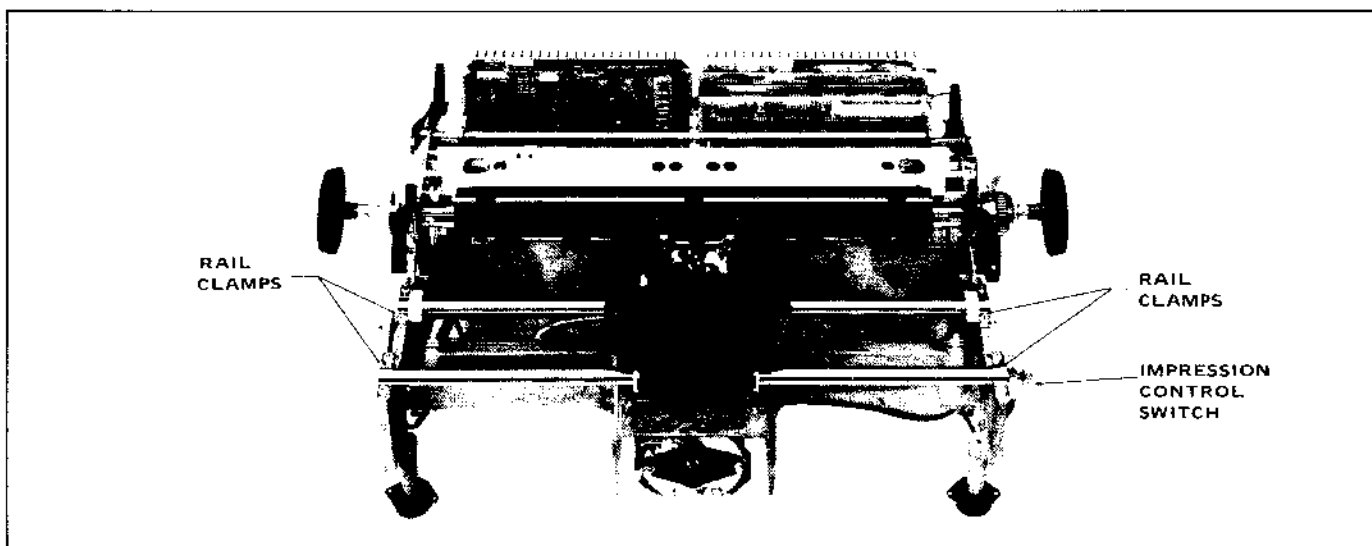

Figure 3-15. Carriage Rail Clamps
- (8) Refer to Figure 3-15. Using the TORX T15 screwdriver, remove the eight (8) no. 8-32 x .625" carriage rail clamp screws, clamps, and the impression control switch, and store the loose items. Grasp the carriage and rails in one hand and carefully lift the assembly up out of the printer main frame while guiding the two shielded cables and their connectors clear of the printer structure.
- (9) Lay the carriage and rail assembly on a clean flat surface. Slide the front rail sideways out of the front carriage bearing sleeve and put it aside in a safe place. Slide the heavy rubber bumper washers off the ends of the rear rail. Note that there are two washers on the left end, and only one on the right end. Store these washers. Finally, slide the rear rail sideways out of the rear carriage bearing sleeve, and place with the front rail.